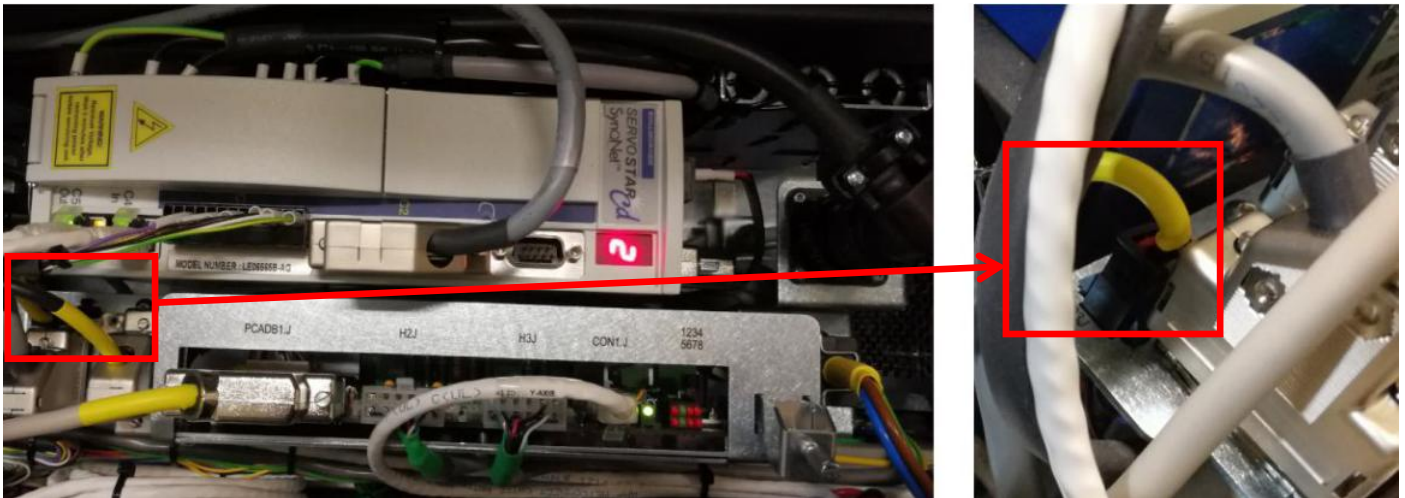

Figure 6
9. Disconnect 1 x Connector (24VDC) from 03J as Figure 6.